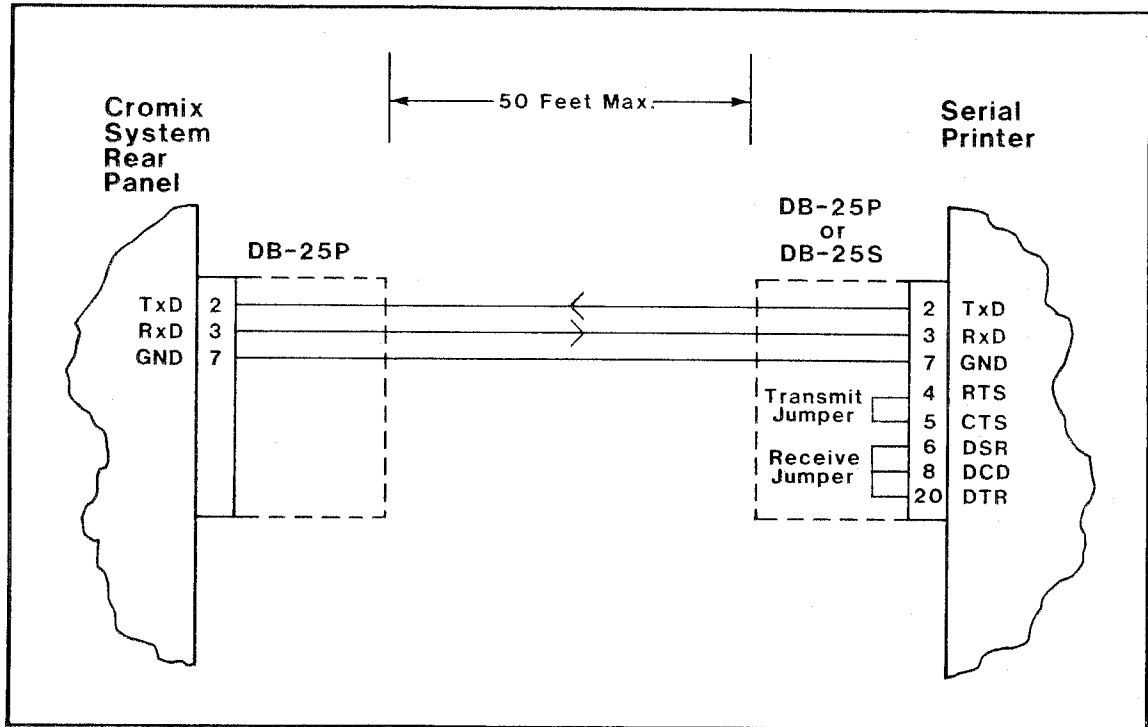

Figure 4-1: SERIAL PRINTER JUMPER CABLES
9. If your printer monitors the CTS (Clear To Send) circuit, install the transmit jumper between CTS and RTS (figure 4-1). Keeping CTS true allows the printer to send DC1 or ACK characters back to the Cromix driver. If the printer does not drive RTS high, strap CTS high by some other means. If the printer does not monitor circuit CTS, the transmit jumper is not needed.
10. If your printer monitors circuits DCD (Data Carrier Detect) and/or DSR (Data Set Ready), install the receive jumper between DCD, DSR, and DTR (figure 4-1). Keeping DCD and DSR true allows the printer to receive characters from the Cromix driver. If the printer does not drive DTR high, strap DCD and DSR high by some other means. If the printer does not monitor either DCD or DSR, the receive jumper is not needed.